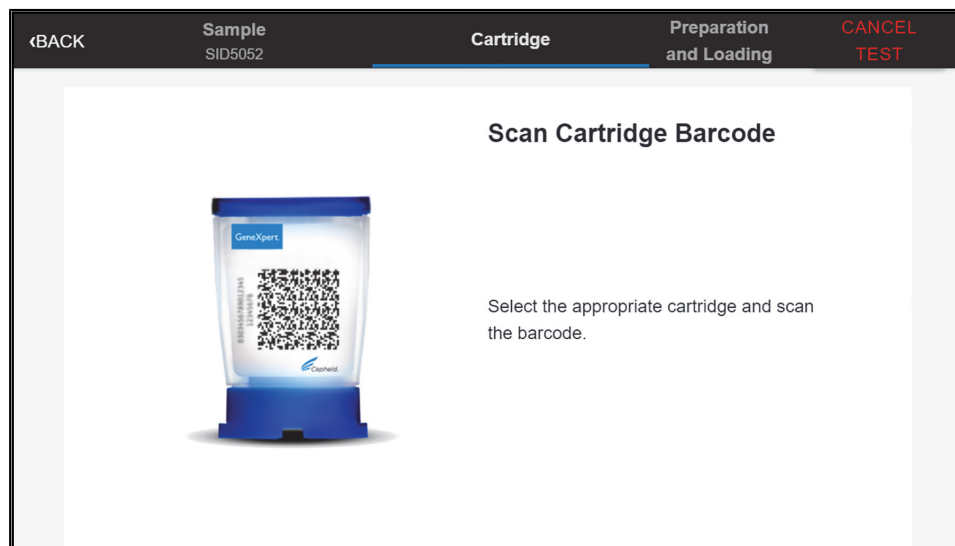

Figure 4. Scan Cartridge Barcode Screen
3. Verify the Sample ID and touch **CONFIRM**. The Scan Cartridge Barcode screen appears (see Figure 4).